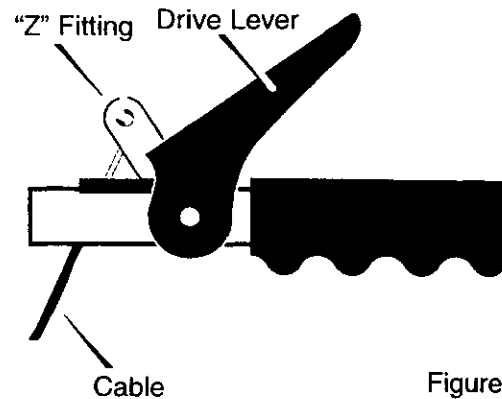

Figure 13
2. If the top of the **cables** have become disconnected from the **drive levers**, attach the **cables** to the **"Z" fitting**. See Figure 13.